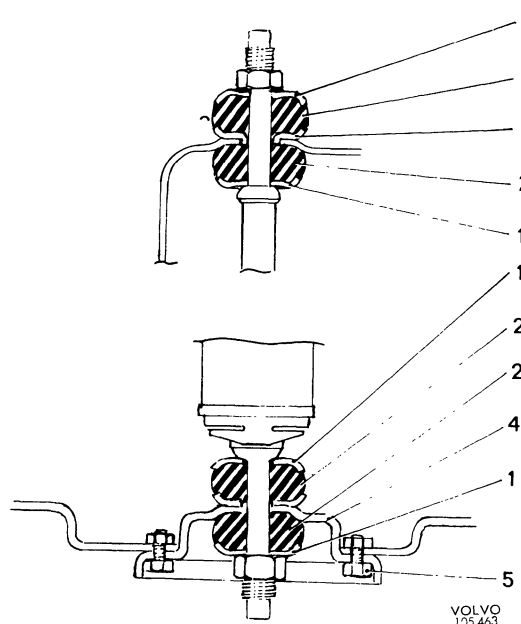

Fig. 7-6. Front shock absorber attachment
The shock absorber attachments (Figs. 7-6 and 7-7) comprise threaded pins journalled in rubber
3. Release the bolts (5, Fig. 7-6) for the attaching washer (4) in the lower wishbone and pull out the attaching washer and shock absorber.
4. Fitting is in reverse order to removal. Place the washers and rubber bushes according to Fig. 7-6.